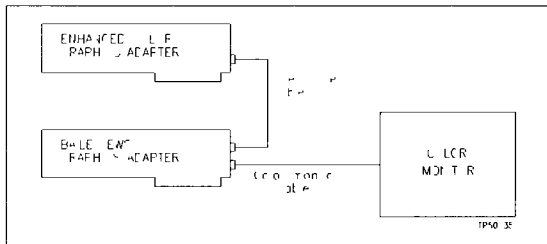
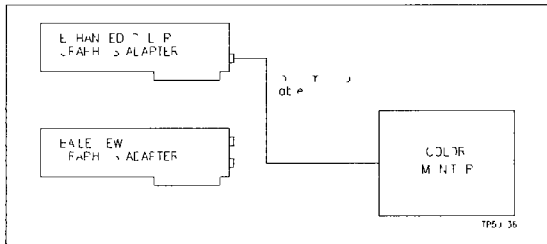

Figure J 1 Cabling for 16 Color Palette
Figure J 2 Cabling for 64 Color Palette
1. CADEWS displays have a screen resolution of 640 x 400 with 16 colors. See Figure J 1 for cable hook up.
2. When CAD is not being executed, the resolution of the screen is 640 x 350. The cable connection of Figure J 1 produces a 16 color palette. For a 64 color palette, connect the cables as in Figure J 2.